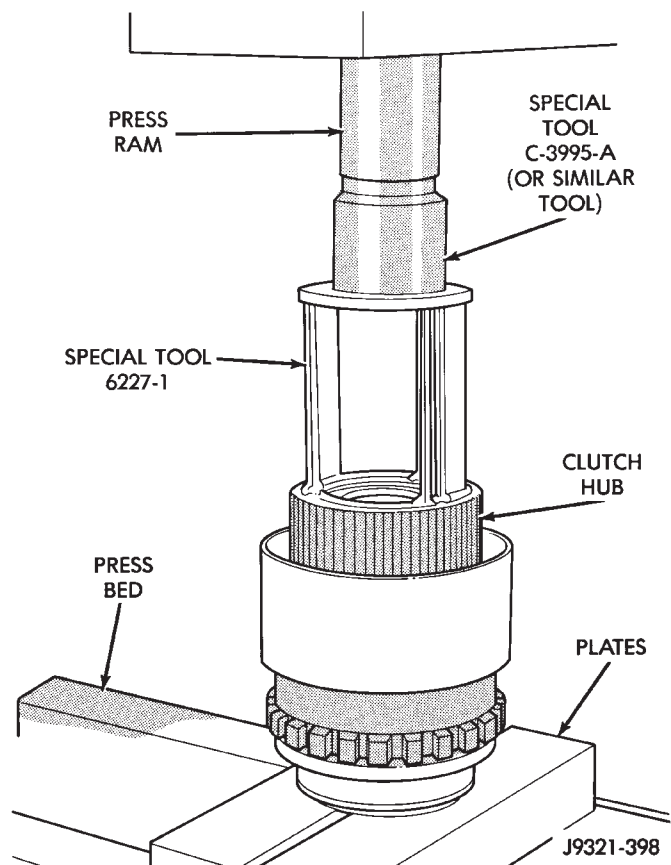

Fig. 19 Geartrain Mounted In Shop Press
- (1) Mount geartrain assembly in shop press (Fig. 19).
- (2) Position Compressor Tool 6227-1 on clutch hub (Fig. 19). Support output shaft flange with steel press plates as shown and center assembly under press ram.
- (3) Use Special Tool C-3995-A (or similar size tool) at top of Tool 6227-1 to help distribute load and provide needed extra press length (Fig. 19).
- (4) Apply press pressure slowly. Compress hub and spring far enough to expose clutch hub retaining ring and relieve spring pressure on clutch pack snap ring (Fig. 19).